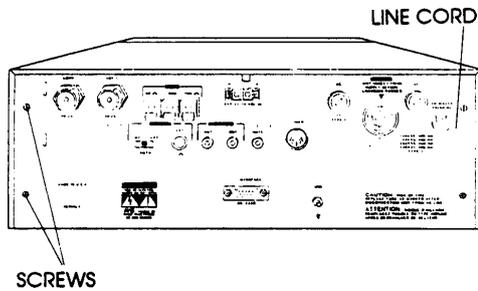

FIGURE 1
1) Remove the top cover from the R8 receiver by removing (5) #6-32 x 1/4" Pan Head Phillips BLACK screws. Retain the cover and screws for reassembly.
2) Remove the bottom cover from the R8 receiver by removing (6) 4-40 x 1/4" Pan Head Phillips screws. Retain the cover and screws for reassembly.
3) Position the R8 with the rear panel directly facing you (Figure 1). Remove (2) screws at left hand side of rear panel. Retain these screws for later reassembly.